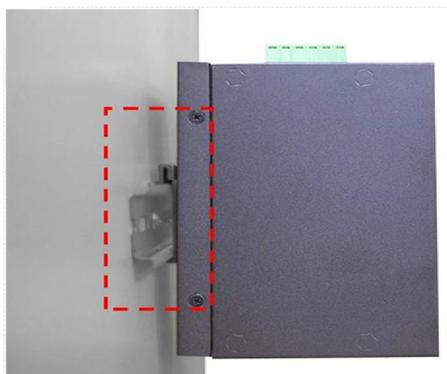

Figure 3.2
3. After the DIN-Rail bracket is installed on the rear side of the switch, insert the top of the DIN-Rail on to the track as shown below in *Figure 3.2*.